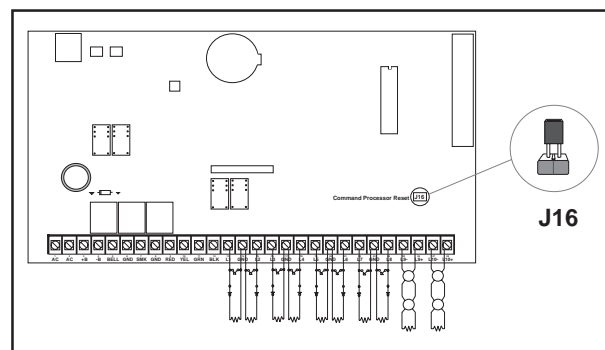

Figure 1: Installing the reset jumper on J16
1. Install the reset jumper across the two J16 reset pins for two seconds. See Figure 1.